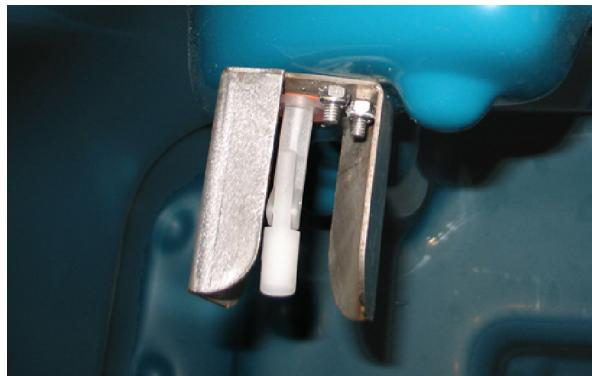
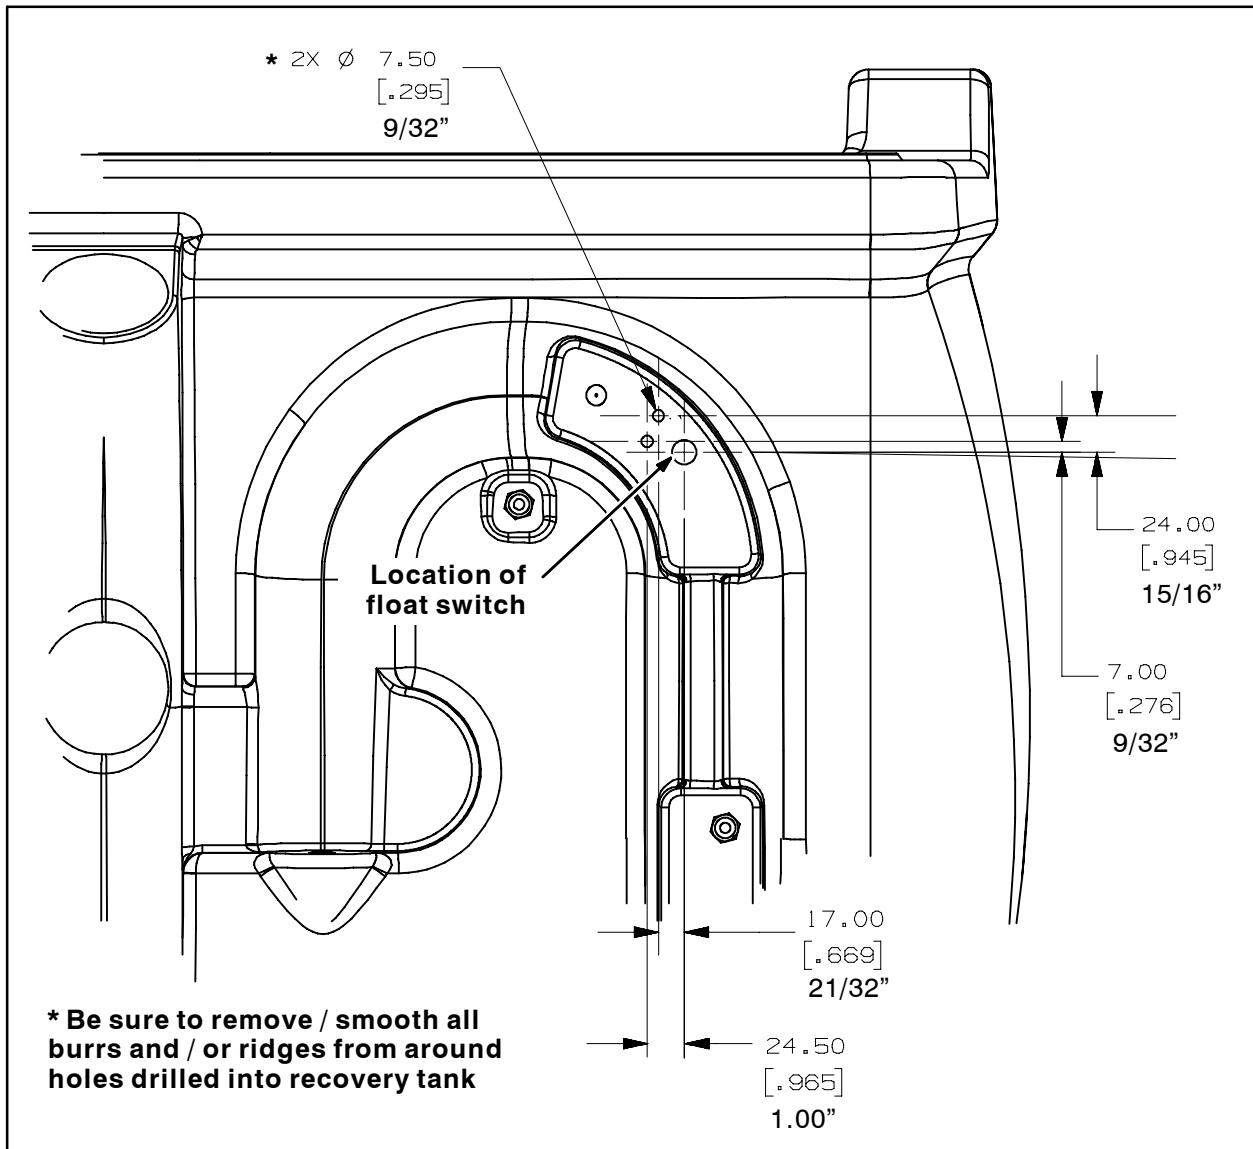

FIG. 2
FIG. 6
4. Hold the new float switch guard (1) onto the float switch as shown in Fig. 2 and drill two holes through the holes in the float switch guard and through the recovery tank. Refer to Fig. 2 for the location of the float switch guard and Fig. 6 for sizes/locations of holes.
5. Remove/smooth all burrs and/or ridges from around the two holes drilled into the recovery tank. Refer to Fig. 6.